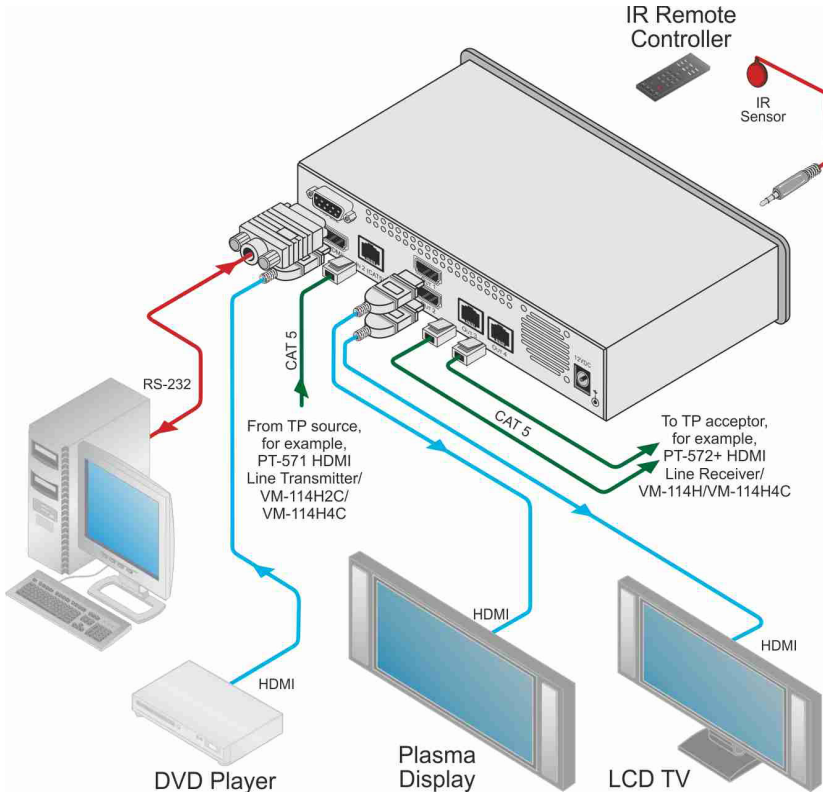

Figure 3: Connecting the VM-114H2C
To connect¹ the VM-114H2C as illustrated² in the example in Figure 3:
7. Connect the power adapter to the power socket on the **VM-114H2C** and to the mains electricity (not shown in Figure 3).
As shown in Figure 3, you can connect a PC (or other serial controller) directly to the VM-114H2C to control the VM-114H2C.